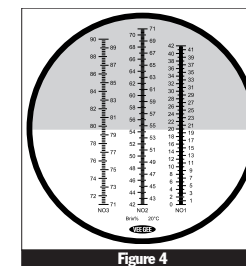
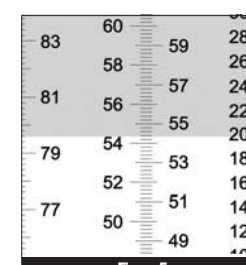

Figure 4
Figure 5
- 7 When the refractometer scale is viewed through the eyepiece (with the dispersion dial at the proper setting), the upper field of view will be seen as grey and the lower field will be seen as white (Figure 4). The reading is taken at the point where the boundary line of the blue and white fields crosses the scale (Figure 5). The value is the Brix% reading of the sample.